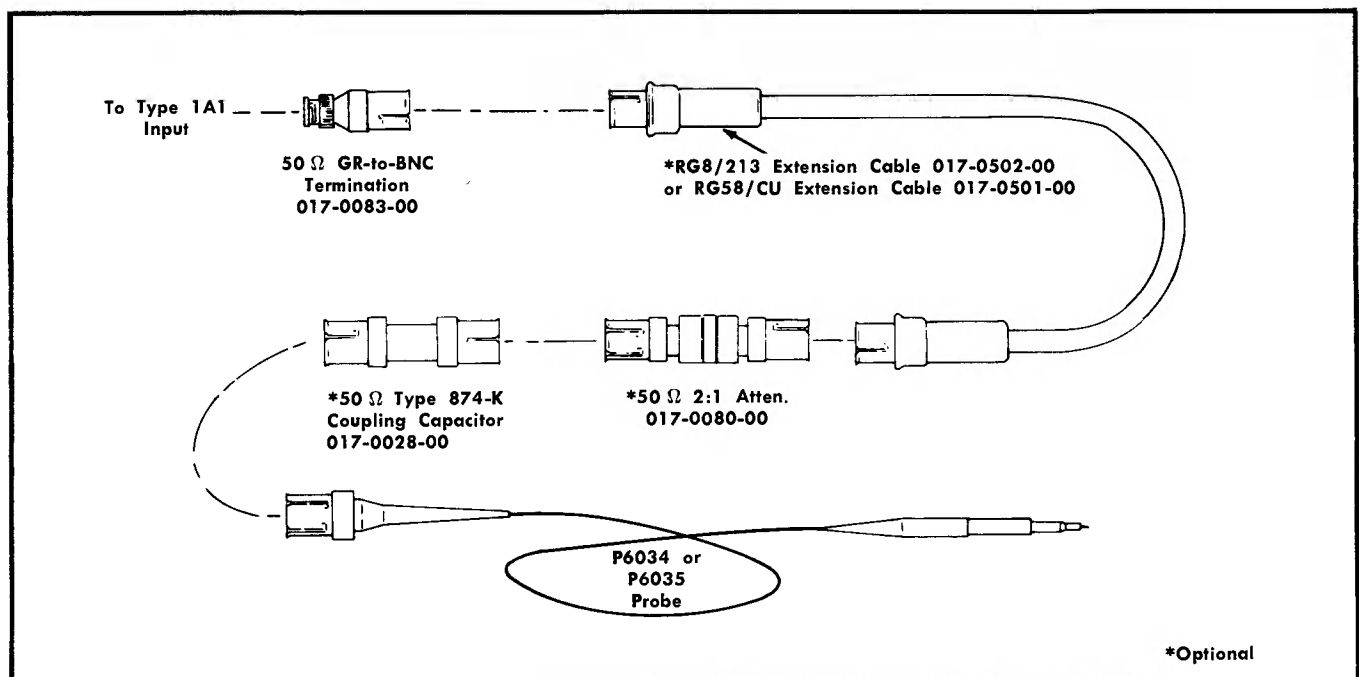

Fig. 2-3. Recommended component sequence when using the P6034 or P6035 probe. See Table 2-1.
Either of the channels can be used independently by setting the MODE switch to the channel desired. Connect the signal to be observed to the appropriate input connector. Table 2-1 lists several methods for applying the signal to the Type 1A1. Fig. 2-3 shows a component-sequence illustration for Method 8 outlined in Table 2-1. Fig. 2-4 shows the input impedance vs frequency curves for the Type 1A1 to show that capacitive reactance (X_c) and resistance (R) decrease as frequency increases. This effect increases loading on the circuit under test as frequency increases.